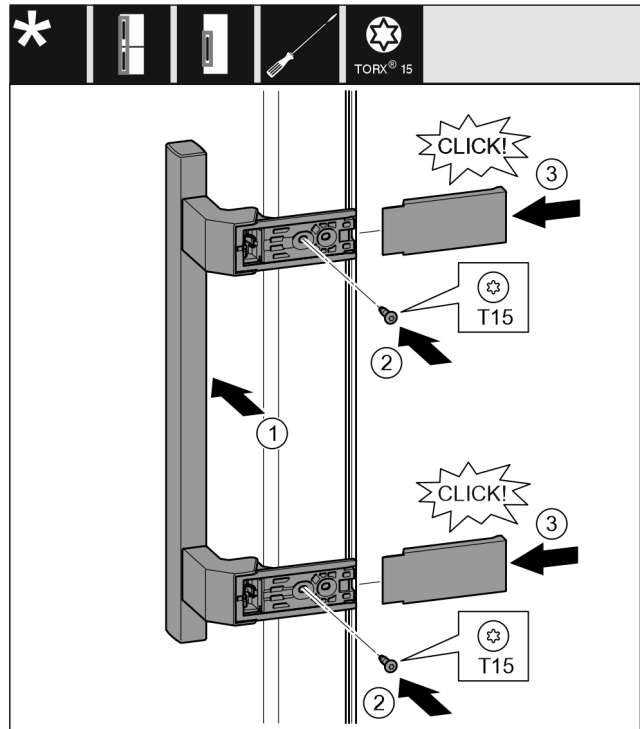

Fig. 15
- Attach the handle on the opposite side. Fig. 15 (1)
- Tighten screws with screwdriver T15. Fig. 15 (2)
- Place the covers on the side and push them on. Fig. 15 (3)